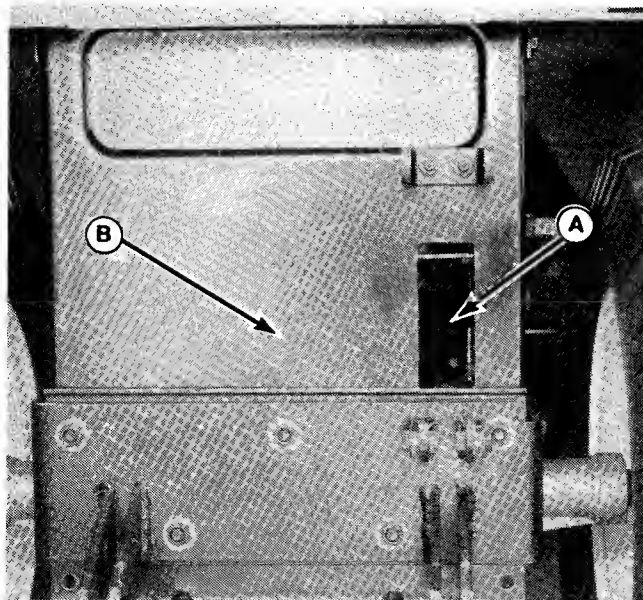

Figure 28.
2. Make sure that the knockout panel (A, Figure 28) had been removed from the wrapper (B). Tapping top and bottom of panel with a hammer and punch will remove panel.